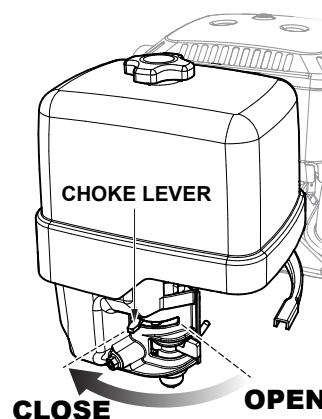

Figure 15. Choke Lever (Closed)
4. Place the choke lever (Figure 15) in the "CLOSED" position if starting a cold engine.